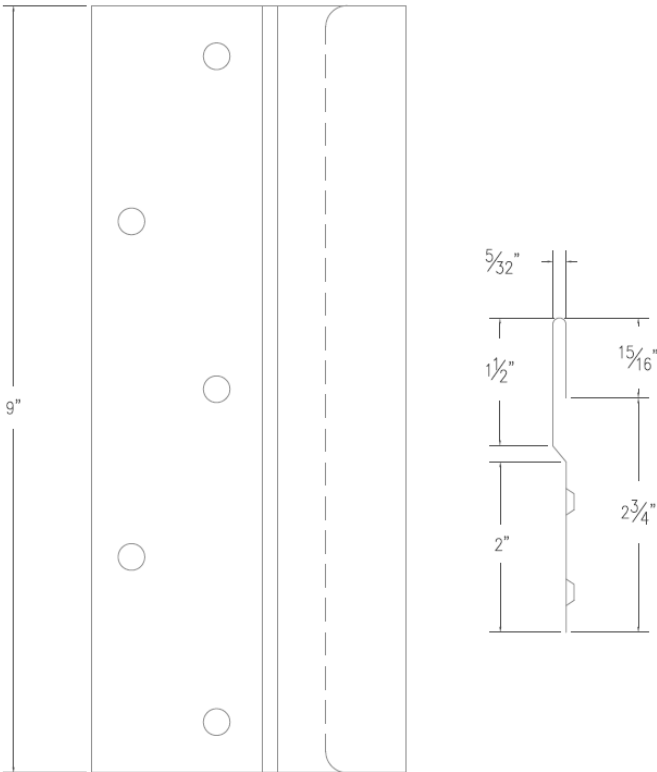

FIGURE 4—FLATLOCK PANEL ENDLAP CLIP
3.5.1.2 Panel Clips – End of Panels: End of panel clips is 9 inches (229 mm) long, 3.6875 inches (94 mm) wide, 0.02 inch (0.5 mm) thick galvanized steel (EN10142, DX51D + Z275-N-B-C). See Figure 4.